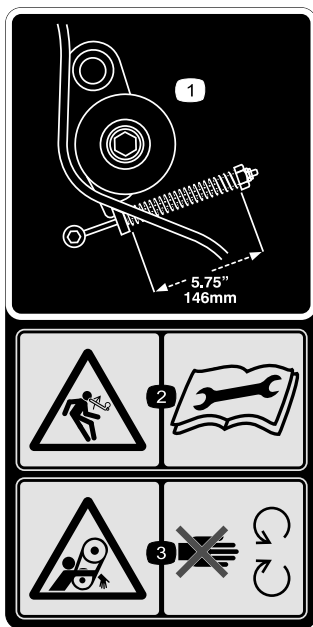

Figure 29
1. Proper belt tension is attained by compressing idler spring to a length of 5.75 inches (146 mm) (Figure 29).